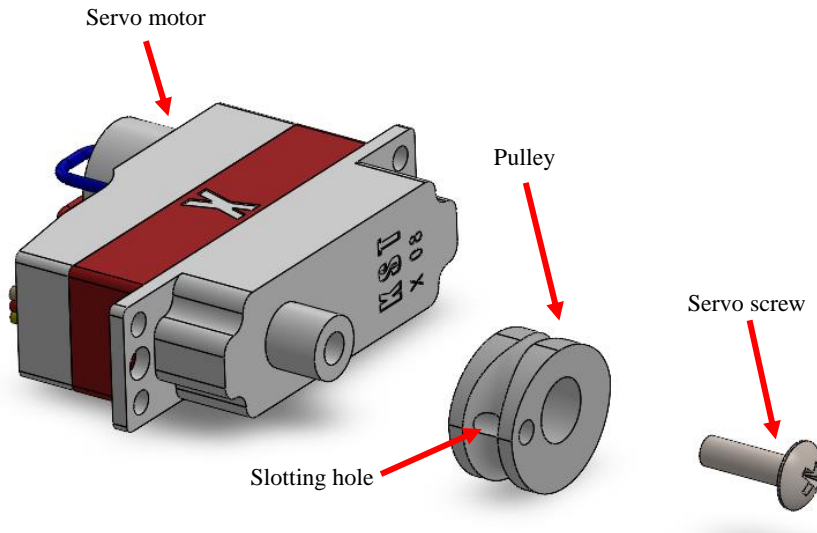

Figure 21: Pulley assembly
1. Attach a servo pulley to the servo arm such that the flat side of the pulley is facing away from the palm and the curved side is facing into the palm. Identify the hole in the pulley that is furthest from the distal finger joint and facing into the servo. We will call this hole the slotting hole (see **Figure 21** below).